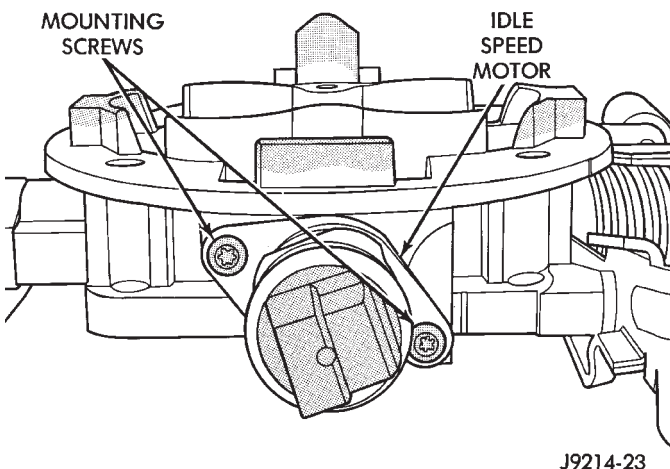

Fig. 15 Mounting Screws—IAC Motor
- (1) Remove air duct at throttle body.
- (2) Disconnect electrical connector from IAC motor.
- (3) Remove two mounting screws (Fig. 15).
- (4) Remove IAC motor from throttle body.